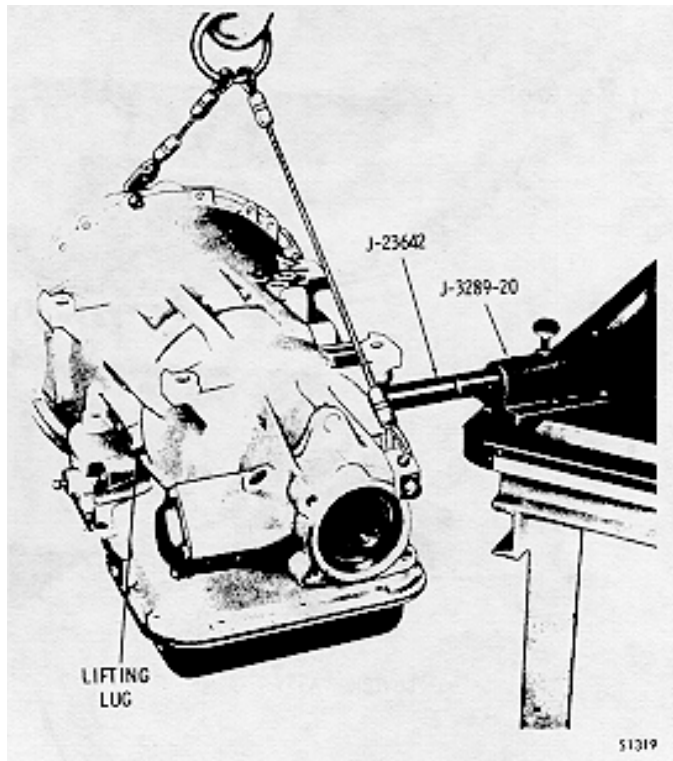

Fig. 5-1. Transmission in holding fixture
(1) Mount the transmission in holding fixture J-23642, figure 5-1. The holding
fixture is bolted to the PTO opening after removing the PTO or the PTO cover. Refer to figure 5-1 for proper position of the fixture.